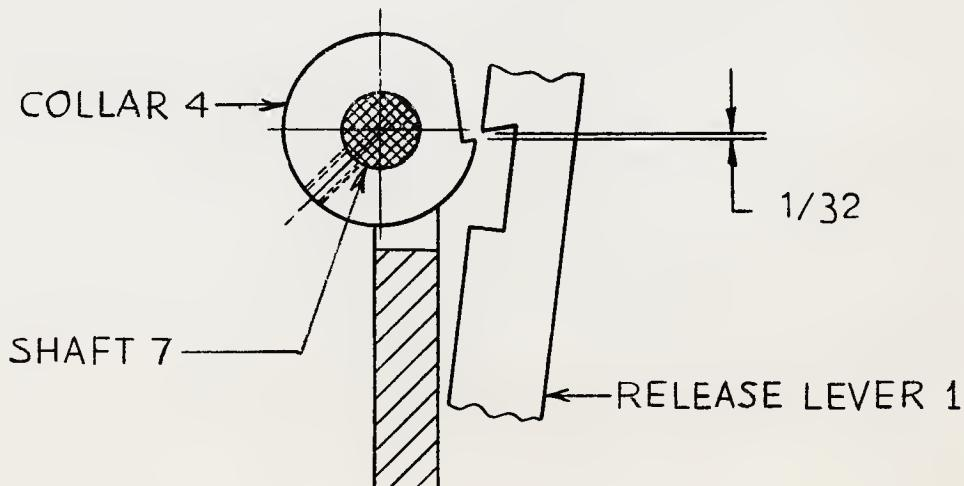

FIG.26
When the cam plate (3), Fig. 18, is forced downward by the return of the delivery lever, collar (4) on shaft (7), Fig. 26, there should be  $1/32"$  of overtravel of the notch in collar (4).